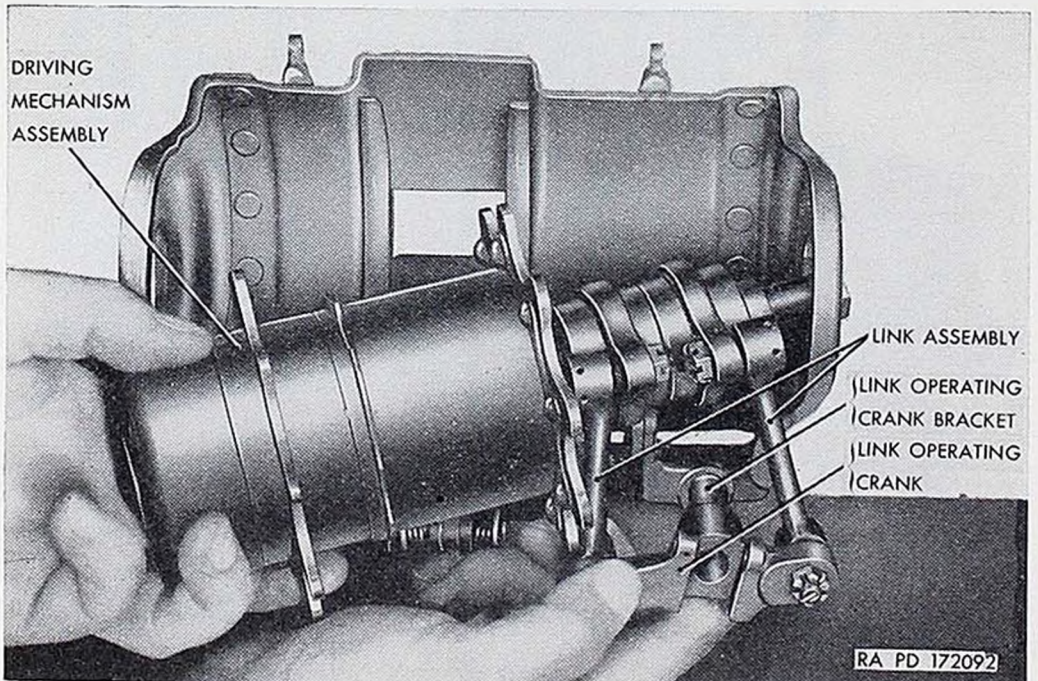

Figure 142. Removal of driving mechanism assembly and clutch drive group.
f. Support driving mechanism assembly with one hand and, with the other, disconnect link operating crank from link operating crank bracket (fig. 142) by pulling crank outward. Remove driving mechanism assembly and clutch drive group from feed frame.
o. Support driving mechanism with one hand and, with the other, disconnect link operating crank from link operating crank bracket (fig. 142) by pulling crank outward. Remove driving mechanism assembly and clutch drive group from feed frame.